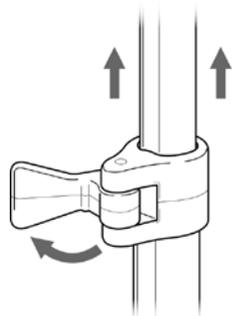

FIGURE 5
1. Release extension lock directly below SECTION 1 by swinging hinge outward as shown. SECTION 1 can then be extended / retracted (FIGURE 5).